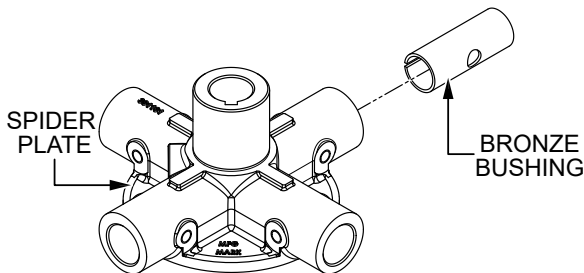

Figure 36. Bronze Bushing
4. Examine the bronze trowel arm bushing insert (Figure 36), and clean if necessary. Replace the bushing if out-of-round or worn.